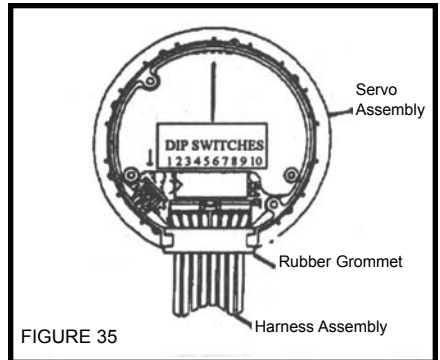
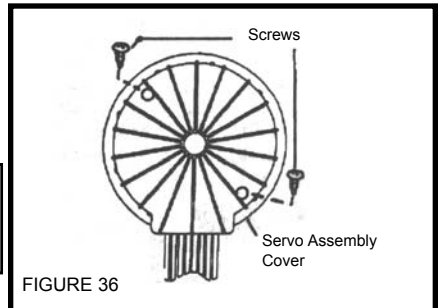

FIGURE 35
FIGURE 36
1. Plug **HARNESS ASSEMBLY** into **SERVO ASSEMBLY**. Push Rubber Grommet securely into place. **Figure 35** Place cover onto the **SERVO ASSEMBLY** and securely fasten screws. **Figure 36**